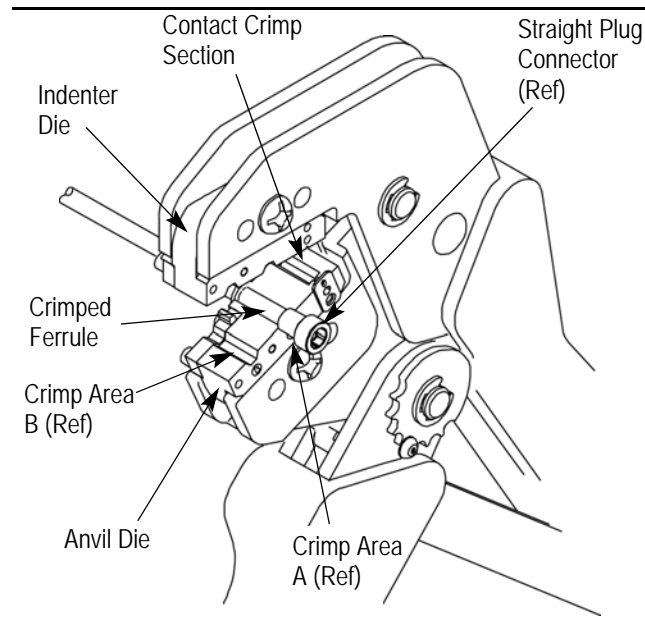

Figure 3
4. CRIMPING PROCEDURE (Figure 3)